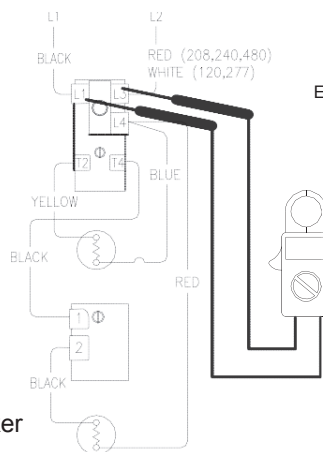

Figure 2
5. Check voltage across terminals L1 & L3 of upper thermostat (see Figure 2).